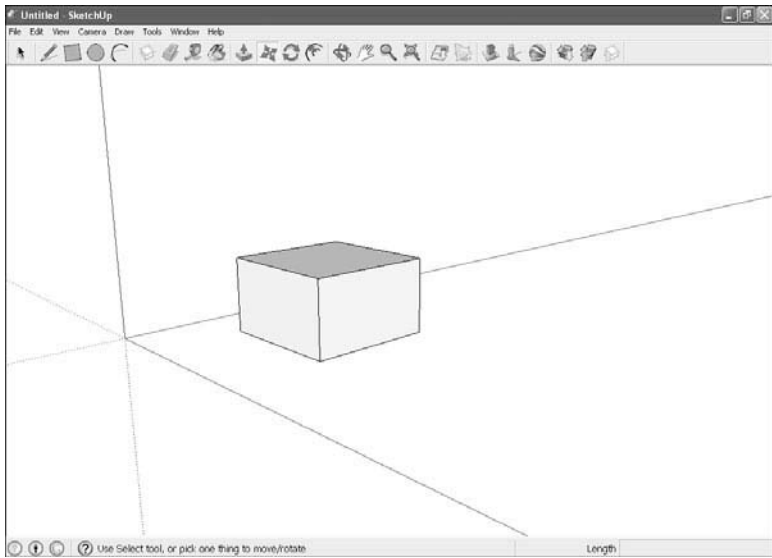

FIGURE 5.16 Drawing a cube.
5. Press the mouse button on the rectangle and drag the rectangle up to extend it into a 3D cube, as shown in Figure 5.16.